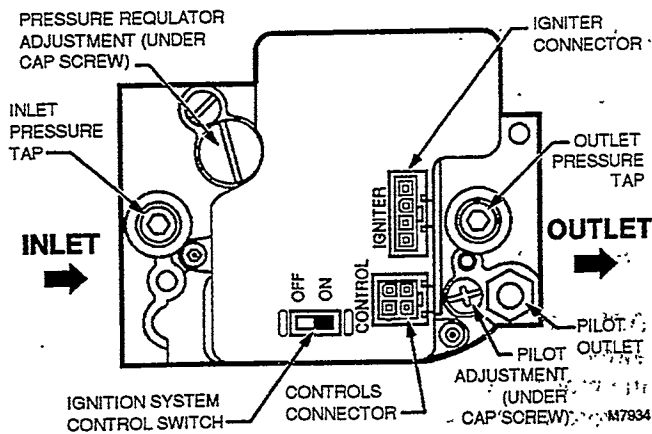

Figure 1
4. Move the gas control switch to the "ON" position (See Figure 1). After a brief period, the main burners should light and the system should be controlled by the thermostat.
3. Move the gas control switch to the "OFF" position. Do not force switch. See Figure 1.